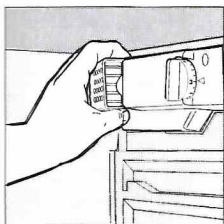

Fig. 5
- How to replace the refrigerator lamp. The lamp is located on the back part of the thermostat knob box. When replacing the lamp, unplug the appliance from the electrical socket, unscrew the burned out lamp and replace it with another following the steps illustrated in figure 5. Make sure that the wattage is not greater than 15W.